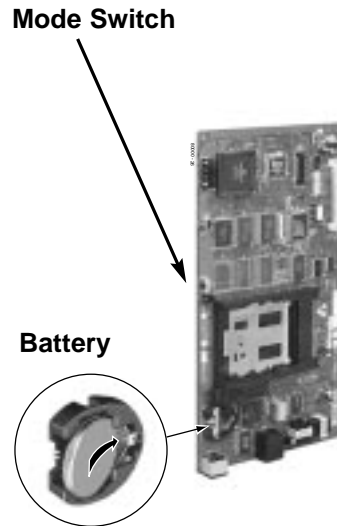

Figure 2-5 Setting up the CPU
Installing the CPU (Figures 2-5 and 2-6)
1. Slide the Mode Switch to the RUN position (see Figure 2-5).